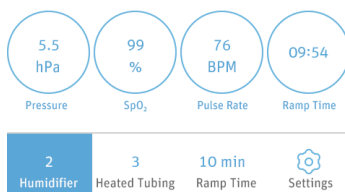

Fig. 14-3
(2) After the device is powered on, start the device, the screen of the device then displays the Main Interface shown in Fig. 14-3. The patient's blood oxygen saturation and pulse rate can be clearly seen during the course of therapy.